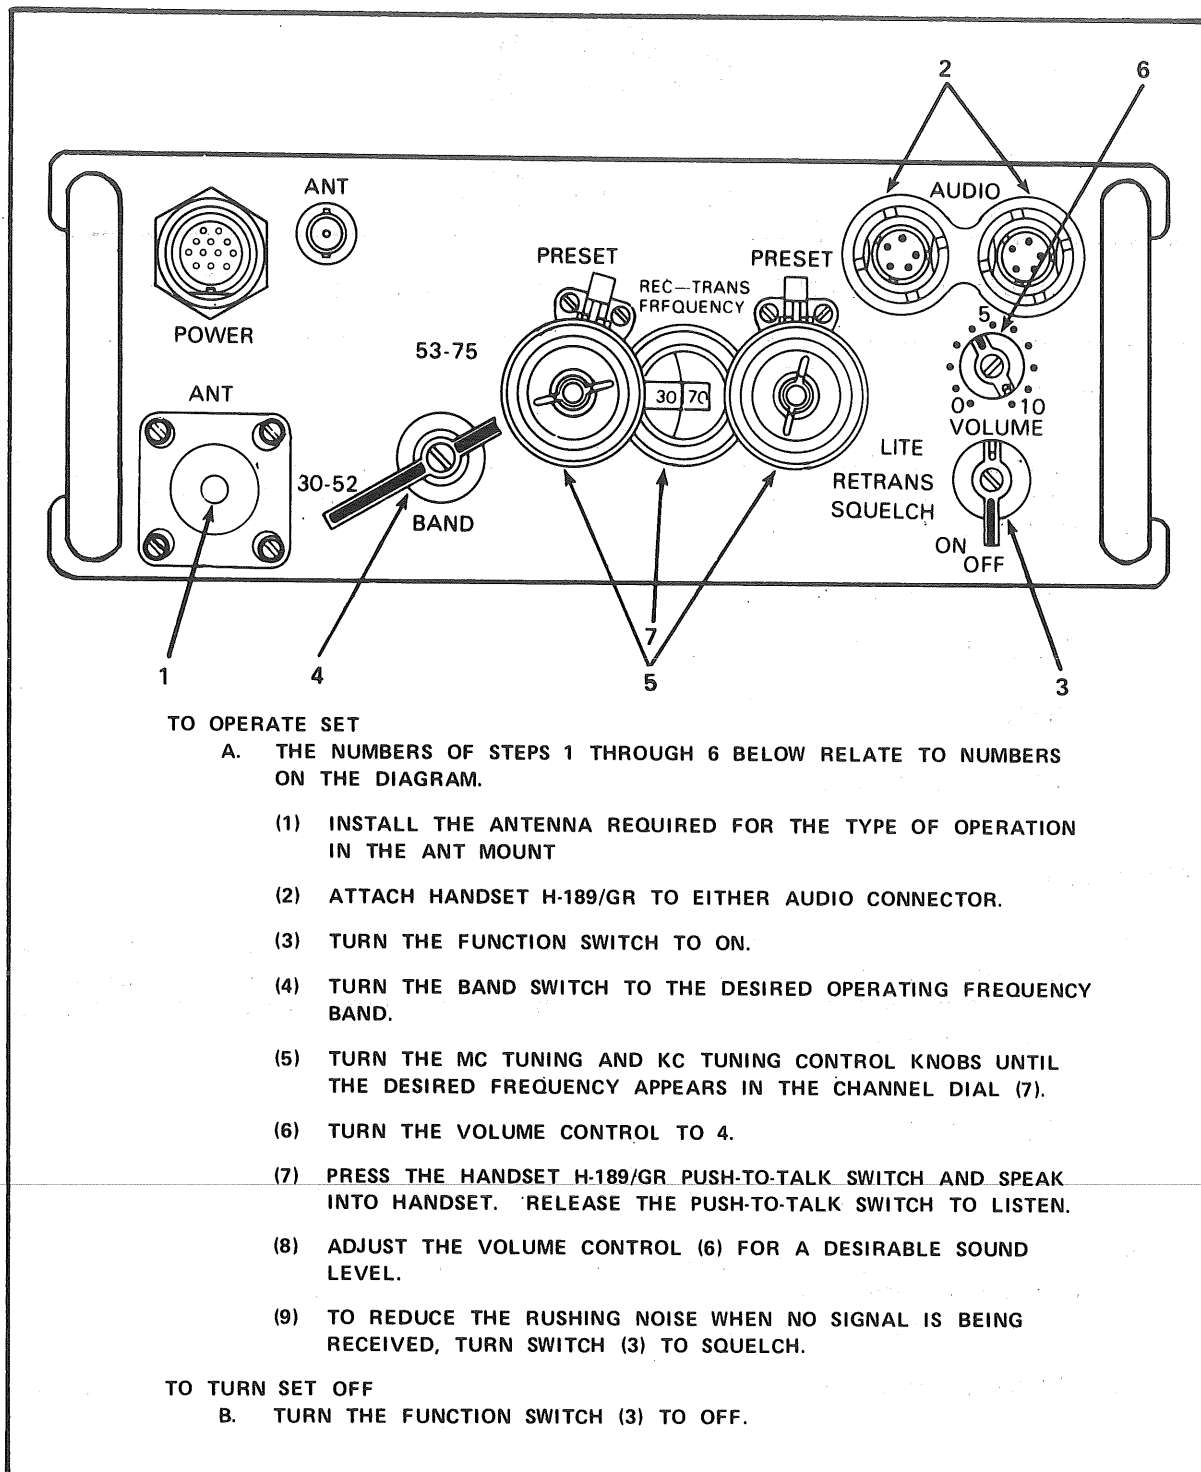

Figure 1. Condensed Operating Instructions for Radio Set AN/PRC-77.
2. Set frequency using megahertz (MHz) and kilohertz (kHz) tuning control knobs. (Refer to fig 1 and TM 11-5820-667-12, chap 3, para 3-2, pp 3-1 thru 3-4.)
3. Perform stopping procedures. (Refer to fig 1 and TM 11-5820-667-12, chap 3, para 3-5, p 3-5.)